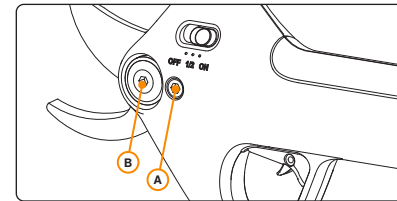

Figure 7: Removing the gear cover.
2. **Remove gear cover.** Unscrew (2) 4 mm Allen screws as seen in Figure 7